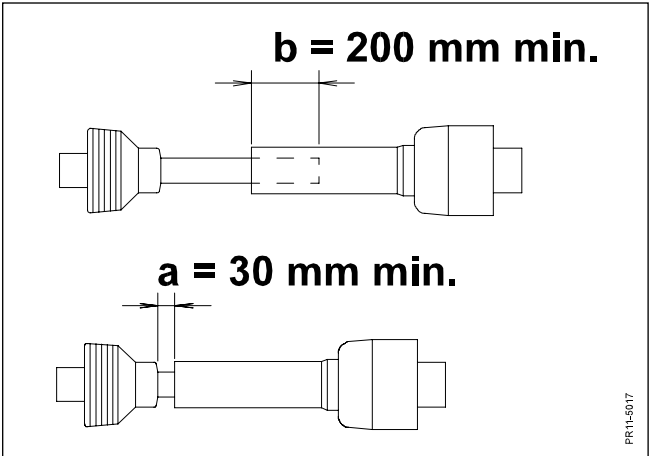

Fig. 2-19
- Fig. 2-19 14) Adjust the length of the PTO shaft in such a way that: